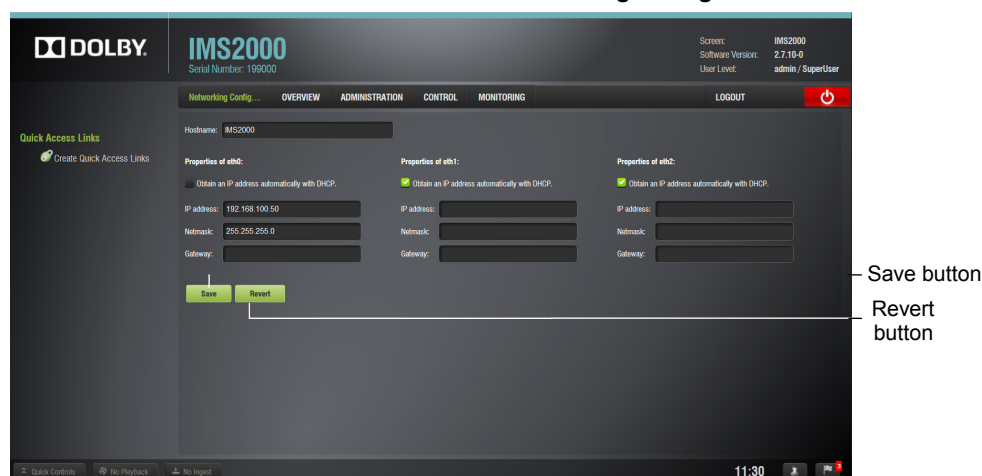

Figure 9-1 Network Configuration
2. To verify the setup, select **Monitoring > Diagnostics > System > Networking** and verify the IP address listed in the area labeled **Networking** (see Figure 9-1).